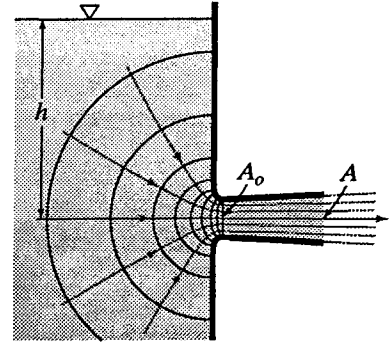

Figure X11.6.5
- 11.6.9 Given that the diverging tube shown in Fig. X11.6.5 has  $A = 1.75A_o$ . If it is operating at 1000 m elevation under standard atmospheric conditions, what will be the maximum value of  $h$  for which the tube will flow full?